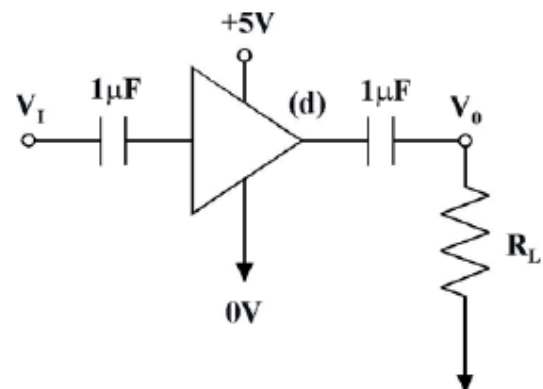

Figure 2 – Measuring the Transconductance and Output Impedance of the Amplifier
1. Apply a sinusoidal voltage V_I to the input of the amplifier, coupled through a $1\mu\text{F}$ capacitor (with the voltage sufficiently low so that the output does not saturate). (See Figure 2.)